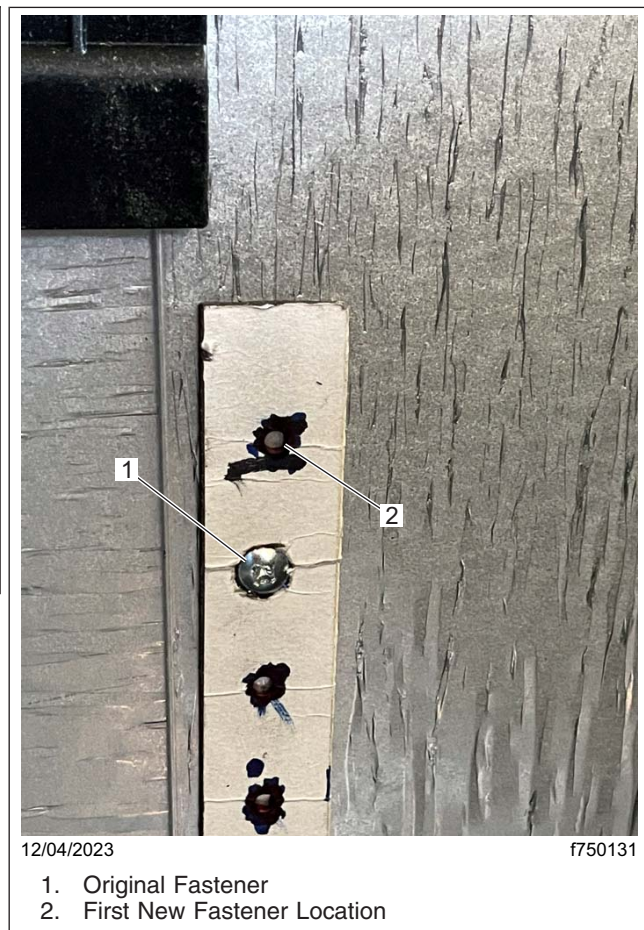

Fig. 3, Overlapped Joint Factory Original Fastener
5.1 For the first new fastener location, locate the original factory fastener in the joint, and measure 1-1/8 inch upward, as shown in **Fig. 3**.